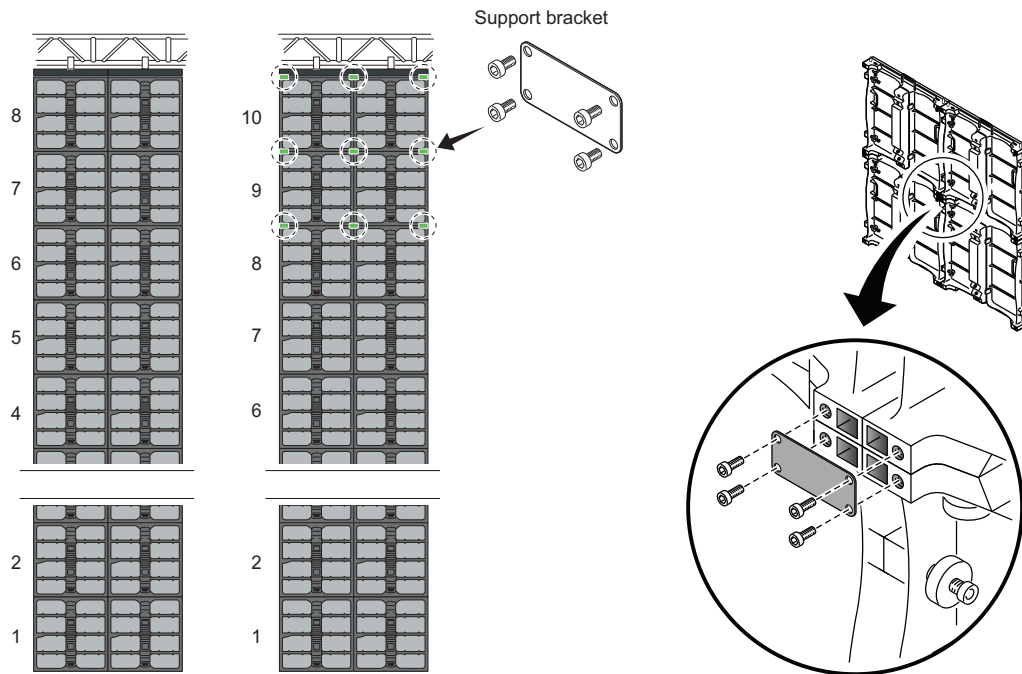

Figure 1-2.
- Use support brackets if you suspend more than 8 rows of LED panels vertically. See Fig 1-2.